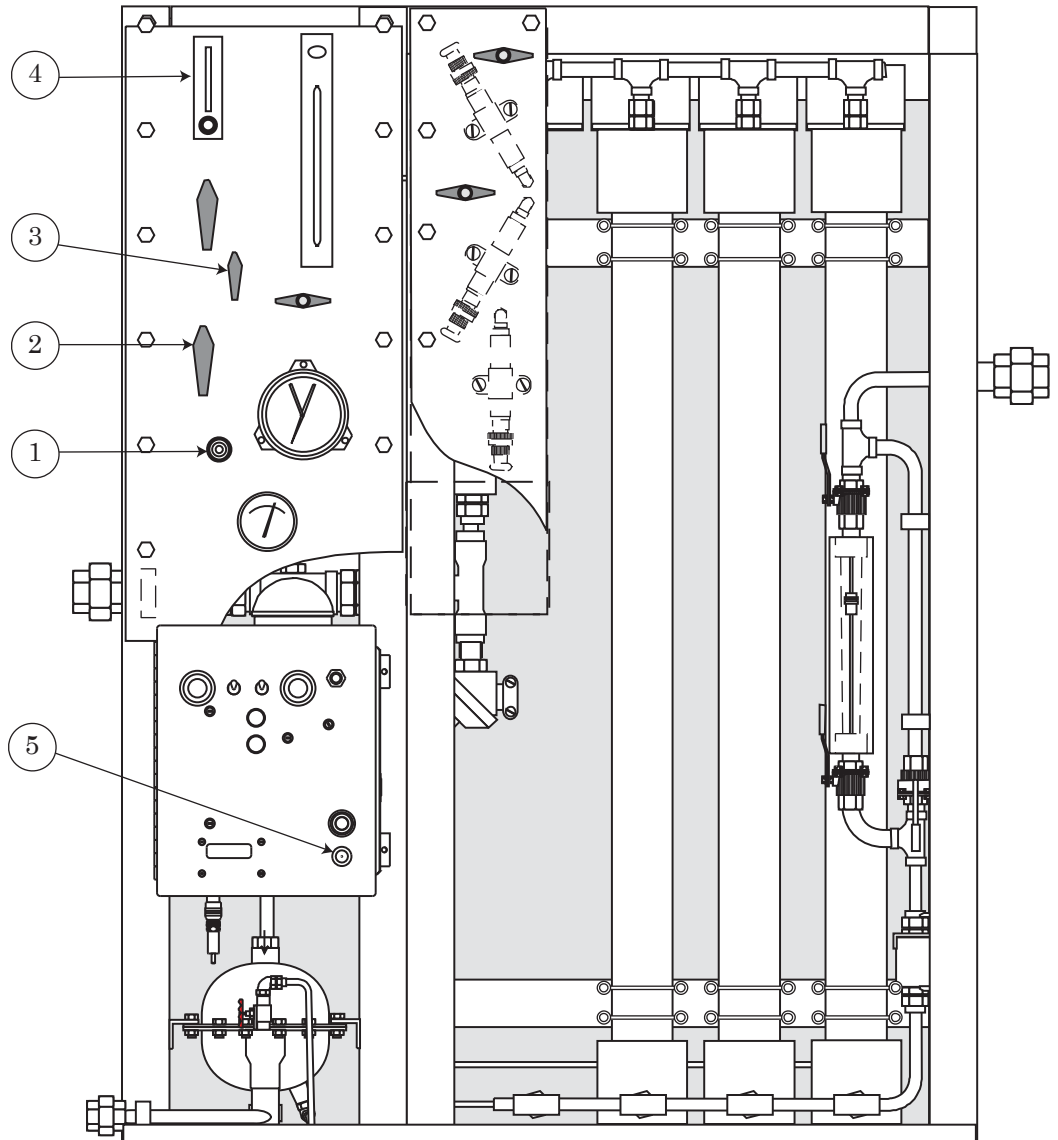
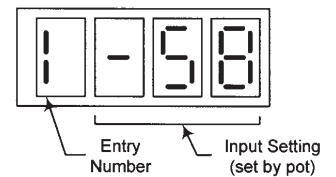

Figure 3. Front View
Figure 4. Typical First Calibration Display
- Connect an external dew point monitor with approximately $\pm 1^\circ \text{ F}$ precision to the dew point sample port (Figure 3, 1).
- Turn the purge selector valve (Figure 3, 2) from Normal to Isolate.
- Turn the calibration dump valve (Figure 3, 3) from Normal to Calibrate. You will hear a rush of air to atmosphere behind the panel.
- e. Close the metering valve at the bottom of the calibration flowmeter (Figure 3, 4). This allows starting with dry air from the dehydrator outlet.
- f. Press the calibration push button (Figure 3, 5) and hold for 5 seconds (but not more than 10 seconds), then release it. The system enters calibration mode and the display will show (Figure 4) the calibration input number (blinking) and the setpoint value (not blinking - steady).
- h. Note the dew point reading on the external dew point monitor. Use the potentiometer to set the display to that value (the -58 in Figure 4).